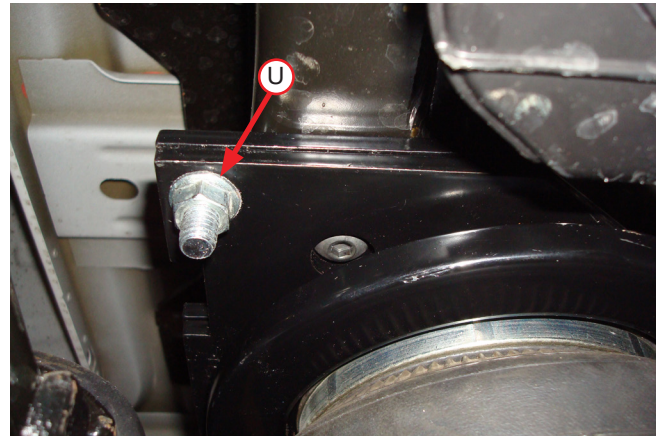

Fig. 30
4. Before proceeding, ensure the 90 degree fittings are pointing inboard toward the center of the vehicle. While raising the axle or lowering the body of the vehicle, align the previously installed upper frame bracket carriage bolts (including the one on the air spring bracket) with the air spring bracket/frame brace holes so the carriage bolts protrude. Cap all the carriage bolts with the 3/8" Serrated flange lock nuts (U) (Fig. 30). Snug the bolts down first then torque to 31 lb.-ft. (42Nm).